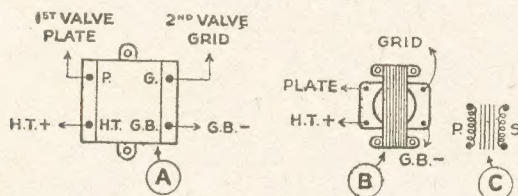

Fig. 1—Directly coupled transformers
Transformers are often used to couple one valve to the next and the most popular transformer for this purpose is shown at (A) in Fig. 1. The shape and
Small or old-fashioned transformers may merely have 'P' by one pair of tags or terminals and 'S' by the second pair. This stands for Primary and Secondary. The leads should be connected as shown at (B) in Fig. 1, secondary connections being reversed over if necessary, as explained.
ings, the primary and secondary, as shown at (C) in Fig. 1. No connection exists between the two windings. (The lines between them indicate the iron core.) If a transformer with no markings, or with coloured leads, is to hand, tests for continuity can be made between the various ends. This will show which pairs of leads or tags are connected internally by the windings; one pair will be the primary, and the second the secondary, connections. If a meter is available, test the resistance of the windings. The lowest (about 2,000 to 5,000 ohms) will be the primary, and the other (about 5,000 ohms upwards) the secondary.
A transformer of the type shown in Fig. 1 can be used. Transformers especially intended for feeding in this way are usually marked differently, 'C' being used for the condenser point, and 'E' for the earth, or H.T. negative, connection.